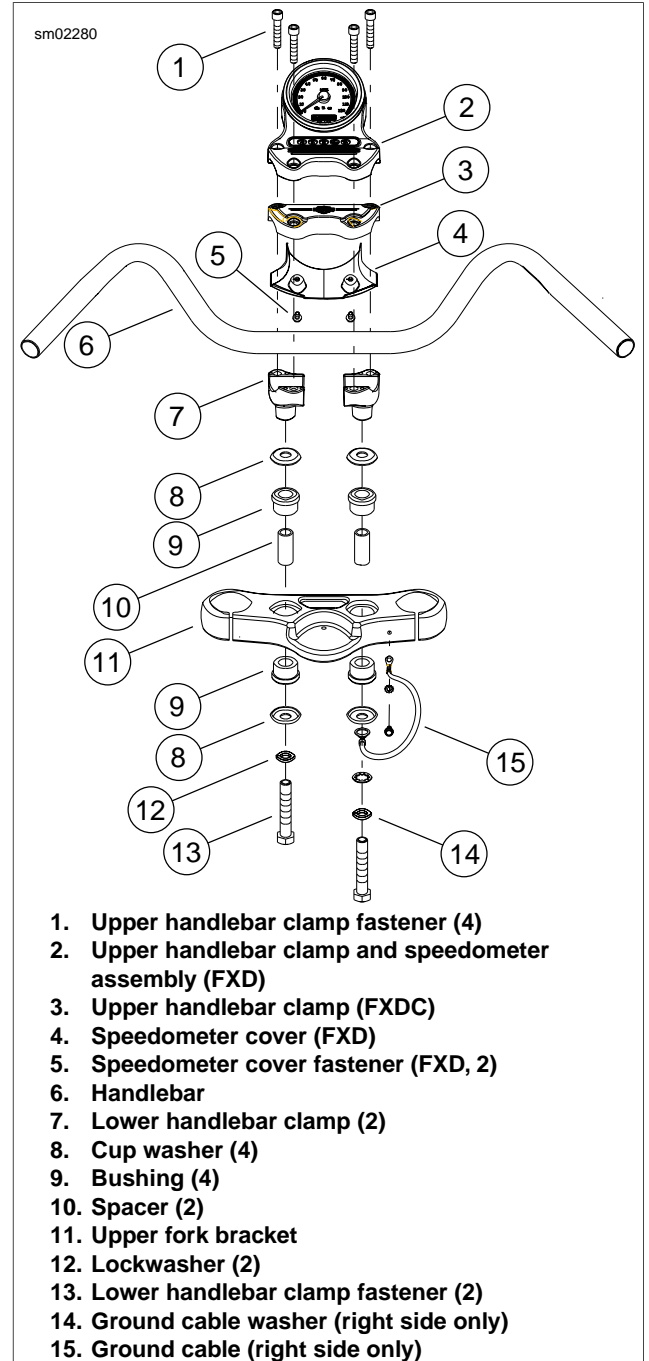

Figure 2-101. Handlebars: FXD, FXDC
1. See Figure 2-101. Remove speedometer cover fasteners (5) and speedometer cover (4).
2. Remove upper handlebar clamp fasteners (1).
- a. For FXD models, remove upper handlebar clamp and speedometer assembly (2).
- b. For FXDC models, remove upper handlebar clamp (3).
3. Remove handlebar (6).
4. If removing lower handlebar clamps (7), remove two lower handlebar clamp fasteners (13), lockwashers (12), ground cable (15) and ground cable washer (14) and lower handlebar clamps from upper fork bracket (11). Replace bushings (9) if necessary.
1. See Figure 2-101. If lower handlebar clamps (7) were removed, install lockwashers (12) on lower handlebar clamp fasteners (13). Install ground cable (15) and ground cable washer (14) on right-side fastener.